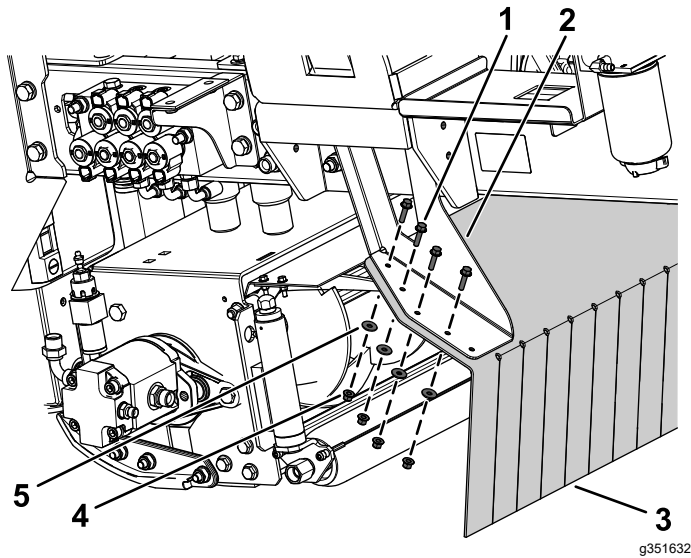

Figure 8
1. Secure the wide deflector to the left and right flap mounts using 8 flange-head bolts (6 x 25 mm), 8 washers, and 8 locknuts (6 mm) as shown in Figure 8.